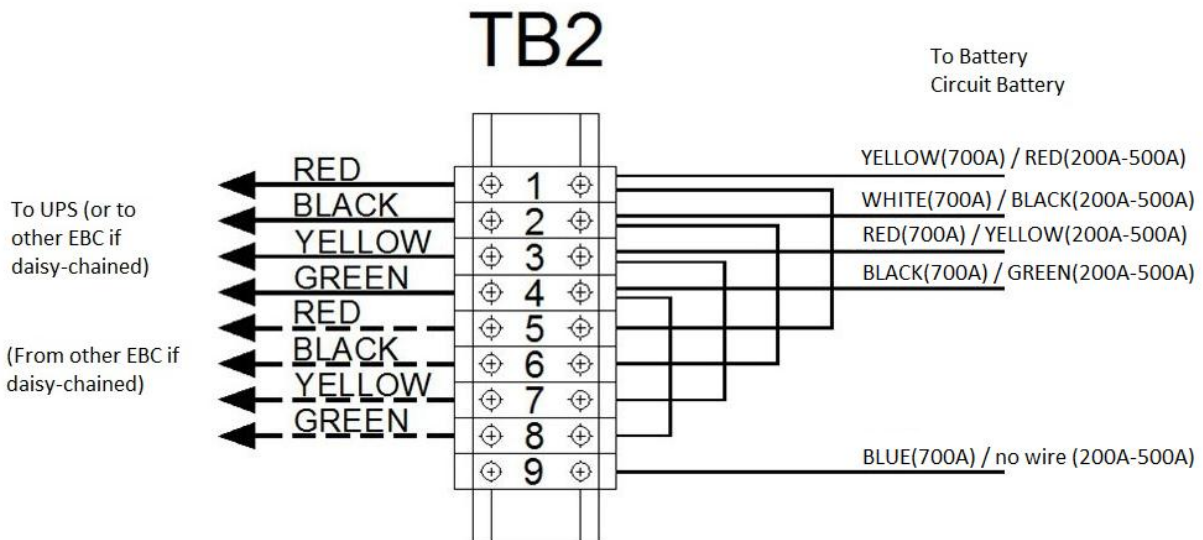

Figure 2-6: Signal wiring of Large and Small Battery Cabinet.
8. If multiple cabinets are to be used, repeat the steps to the rest of the cabinets and be sure to daisy chain the signal wire harnesses in the next cabinet. Signal wires are daisy chained by cutting the multiple connector and extra length of the cables and connecting them to TB2 terminals 5-8. Look at the Figure 2-6.
- If multiple cabinets are to be used, repeat the steps for the rest of the cabinets and in 93PM system be sure to daisy chain the signal wire harnesses in the next cabinet. 93E system does not use signal wiring. Signal wires are daisy chained by cutting the multiple connector and extra length of the cables and connecting them to TB2 terminals 5-8. Look at the Figure 2-6.